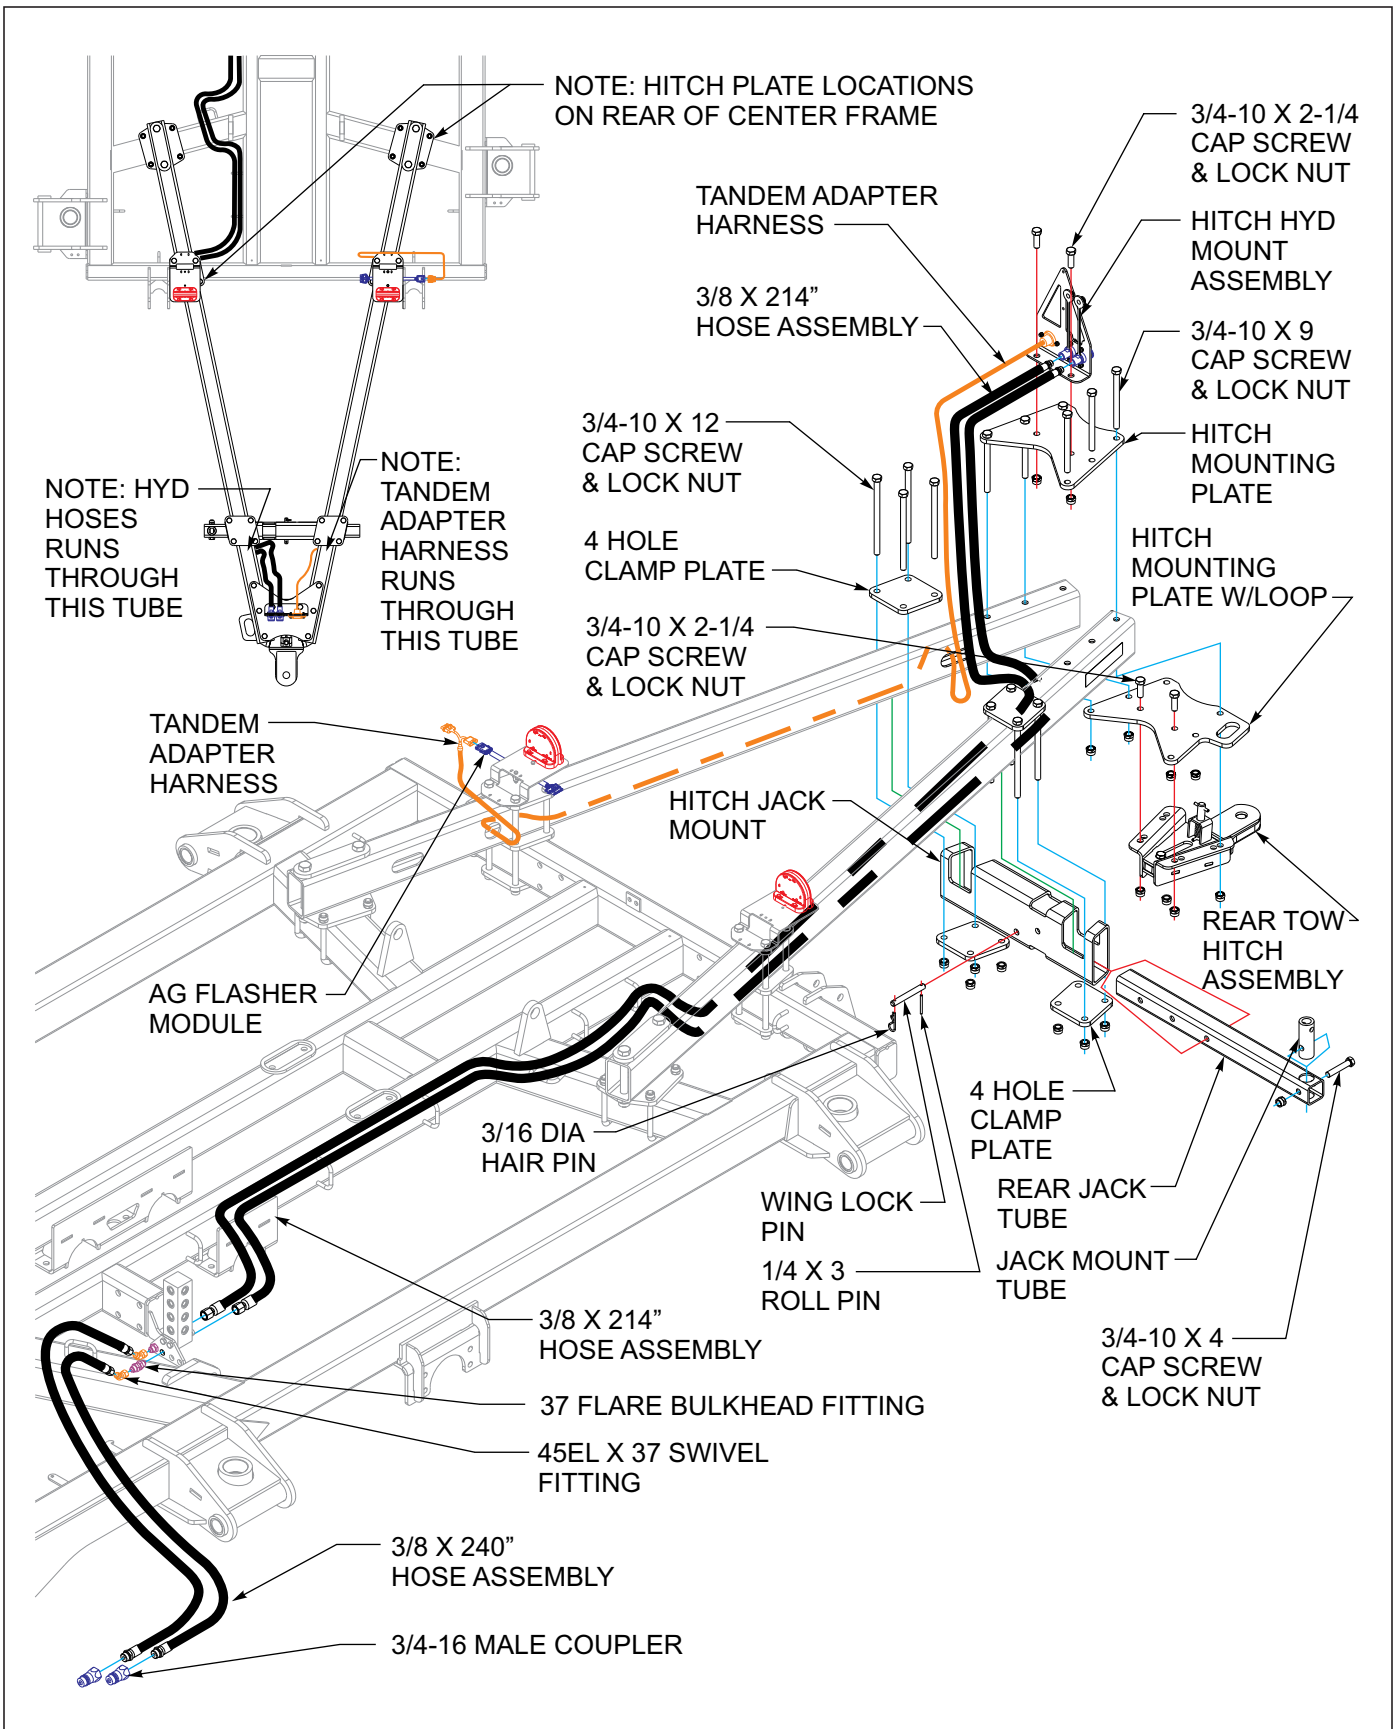

Figure 3-56: Rear Tow Hitch Installation (2 of 2)
14. Attach the hitch hyd mount assembly, hitch mounting plate, hitch mounting plate w/loop and rear tow hitch assembly to rear of rear tow hitch tubes with hardware shown (See Figure 3-56.)
15. Now the hitch jack mount and 4 hole plates may be installed to the rear hitch tubes in position shown (See Figure 3-56.)
18. Route hydraulic hoses on left side of hitch, through tube and follow hose loops to front as shown (See Figure 3-56.). Connect one end of the 3/8 x 214" hoses to the couplers on the front of the hitch hyd mount assembly and the other end to the 37 flare bulkhead fittings. Connect the 3/4-16 Male Couplers To The 3/8 X 222" Hose Assembly. Attach the other end of the hoses to the 45el x 37 swivel fittings as shown.